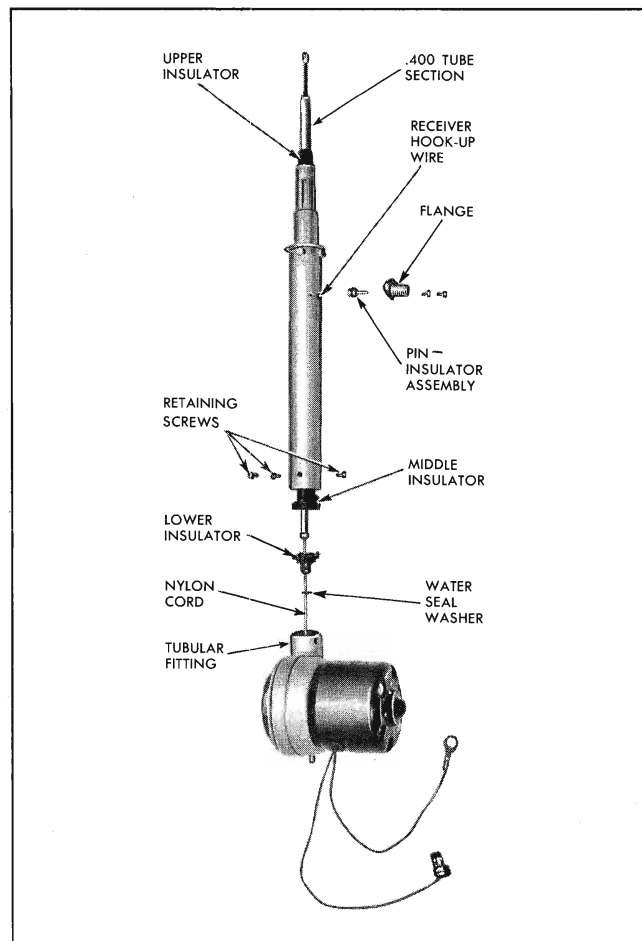

Fig. 12-6 Tenna Antenna—Exploded View
3. Disconnect ground wire, power wires and lead-in (Fig. 12-6).
Replace drive assembly, mast assembly, or support-tube assembly (Fig. 12-6) as follows: